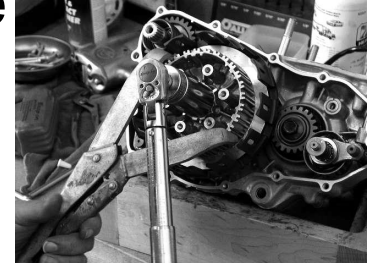

Figure 7
- Re-install the inner hub and tighten the main shaft nut to manufacturers specifications (Figure 7)